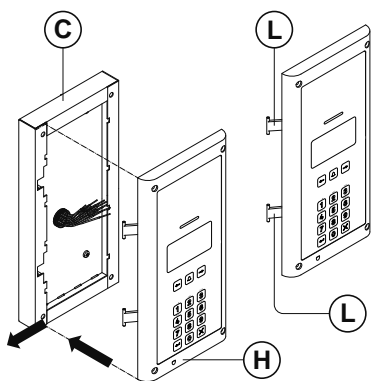
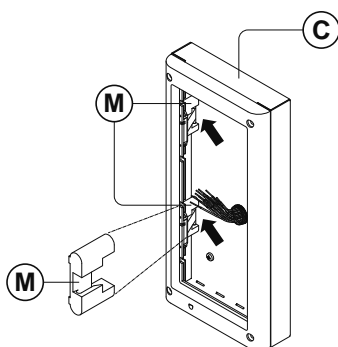

Fig. 40
Fig. 41
5. Next take the frame's hinges **(L)** and hook the module support frame **(H)** to the surface box **(C)** , starting from the left following the guide arrows, as shown in **Fig.40**. Ensure that the frame's hinges **(L)** (**Fig.40**) fit inside the relevant hinge mounts **(M)** inside the surface box **(C)** , following the guide arrows, as shown in **Fig.41**;